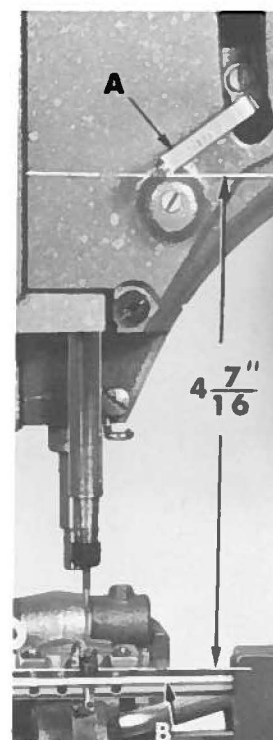

Fig. 15
With the needle lever at the bottom of its stroke, the needle lever eyelet (A, Fig. 15) is set correctly when the underside of the eyelet is $4 \frac{7}{16}$ inches above the top of the retainer drive shaft (B).